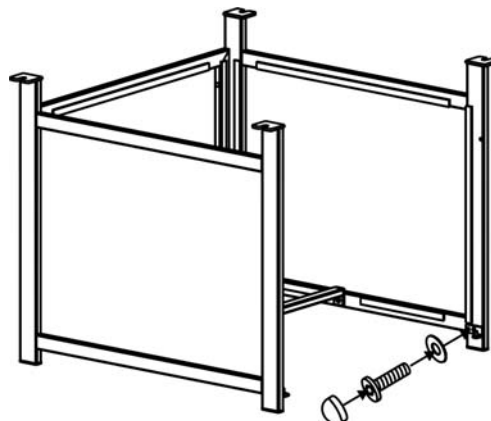

Figure 4
4. Attach the bottom connector to the right side panel by using a 1/4"x15 mm bolt and washer as shown in Figure 4. Guide bolt through hole in bottom connector, into pre-drilled hole in the side panel. **Do not over tighten.**